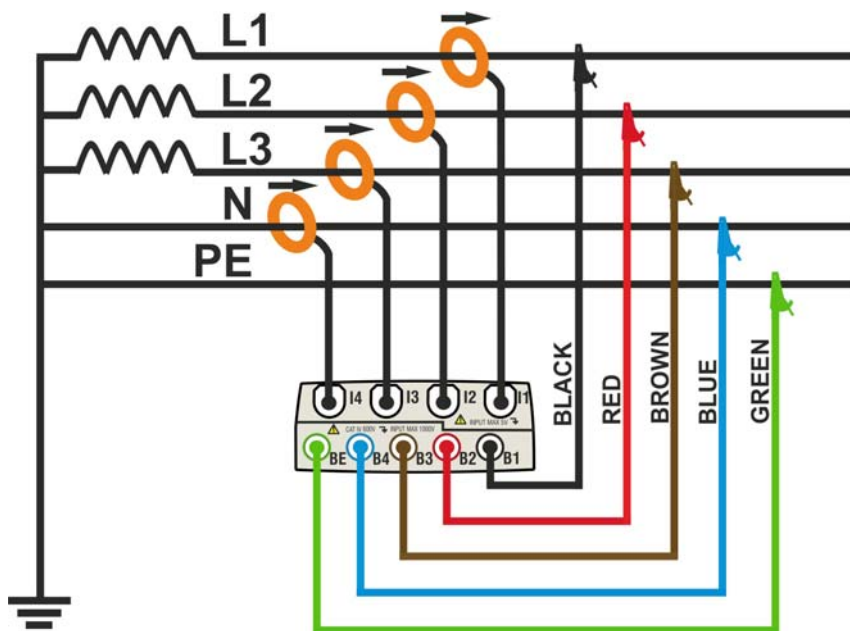

Fig. 116: Meter connection in a three phase 4-wire system – ENG type
2. Connect voltage test leads on Phases L1, L2, L3, Neutral and Ground cables considering the colours as shown in Fig. 116. **Verify the result “123” at display relative to a correct phase sequence indication** (see § 5.2.1) and perform the corrections if necessary.
3. Connect the transducer current clamps on Phase L1, L2, L3 and Neutral N cables as shown in Fig. 116 respecting the clamp's arrow direction indicating the current standard sequence from generator to load. **On Real Time Values' section screens always verify the positive value of Active Power and the power factor relative to each load which should be normally inductive** before starting a recording. Reverse the clamp by 180 degrees on cables in case of negative readings.